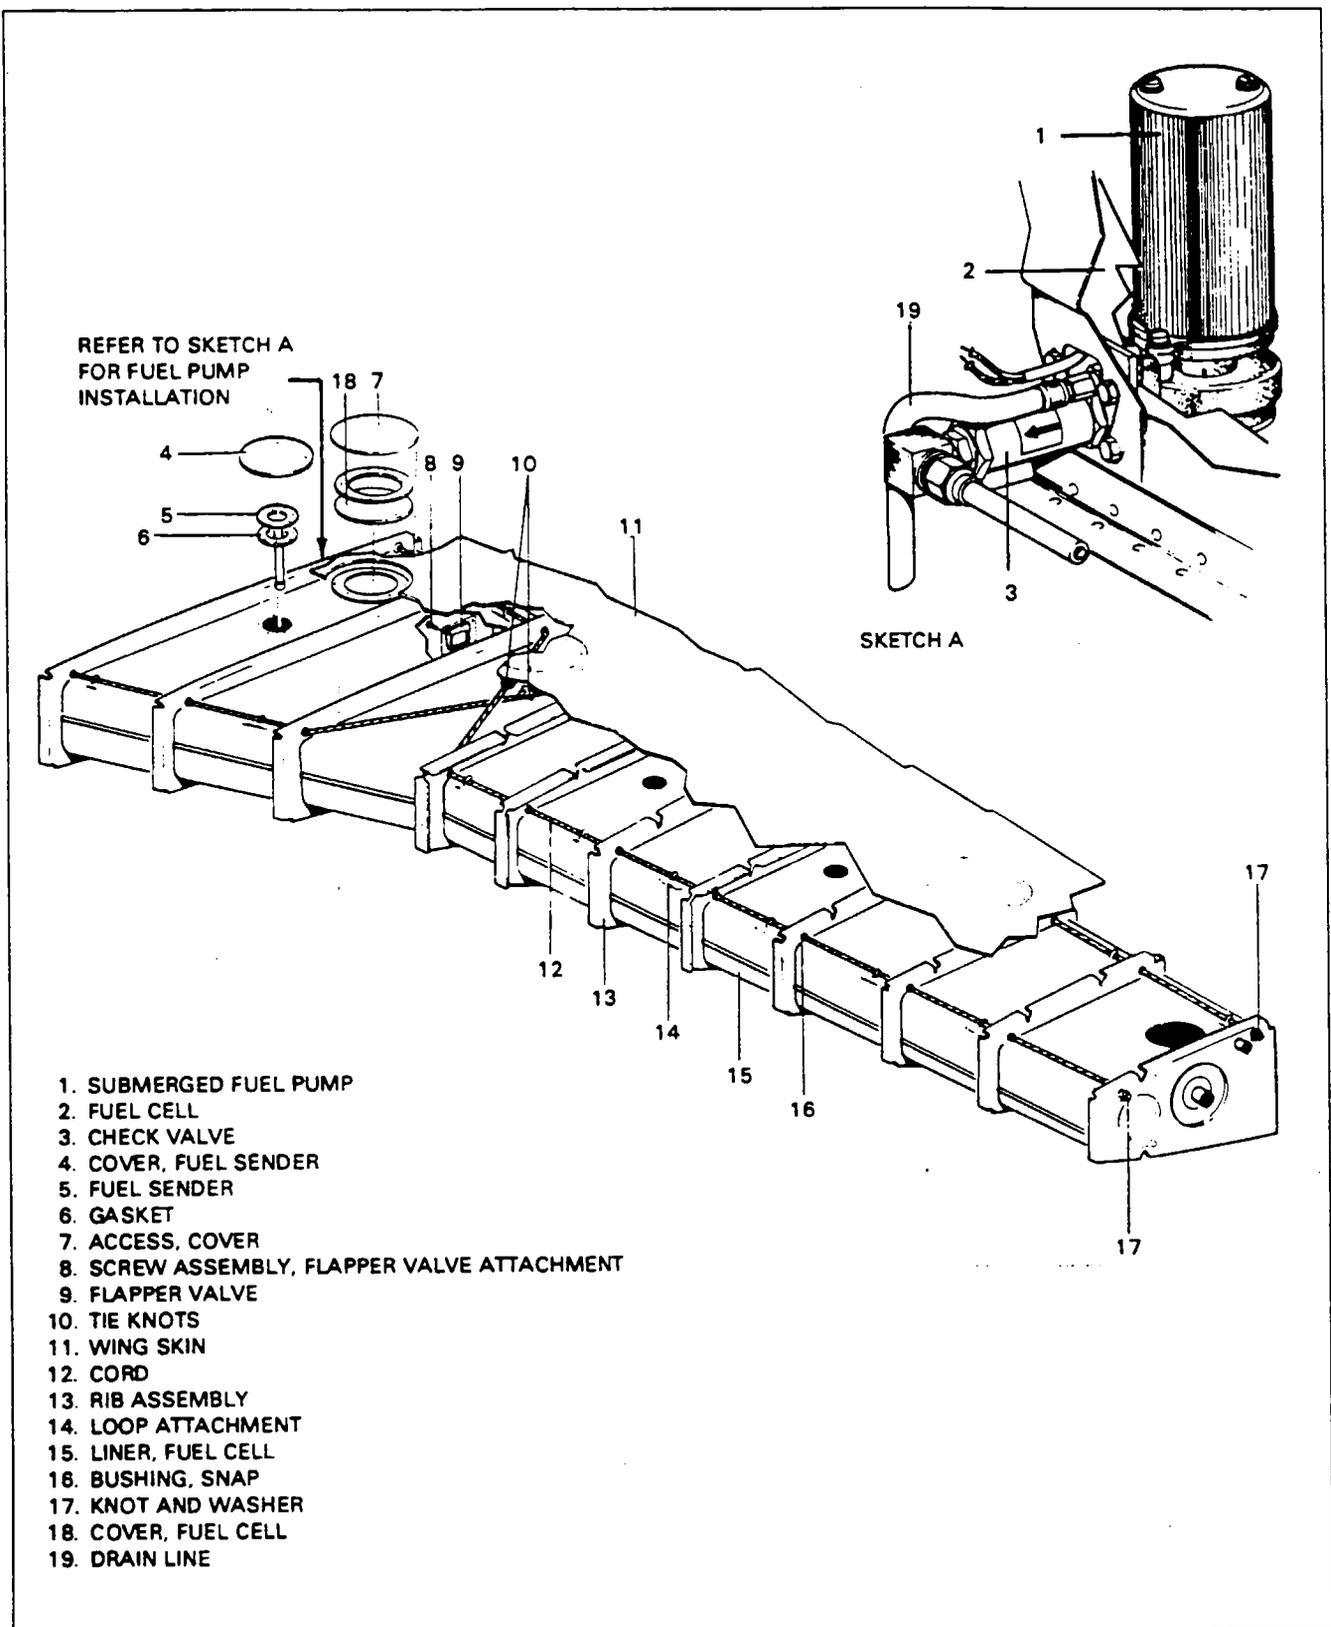

Figure 28-5. Fuel Cell Installation (Inboard)
**REMOVAL OF WING FUEL CELLS.** (Refer to Figures 28-5 and 28-6).
**INSTALLATION OF WING FUEL CELLS.** (Refer to Figures 28-5 and 28-6).
7. From each end of the cell compartment, feed the cord through the cell hangers and rib bushings until the cords can be joined at the access openings. Do not tie cord yet. The cords are routed as shown in Figures 28-5 and 28-6.